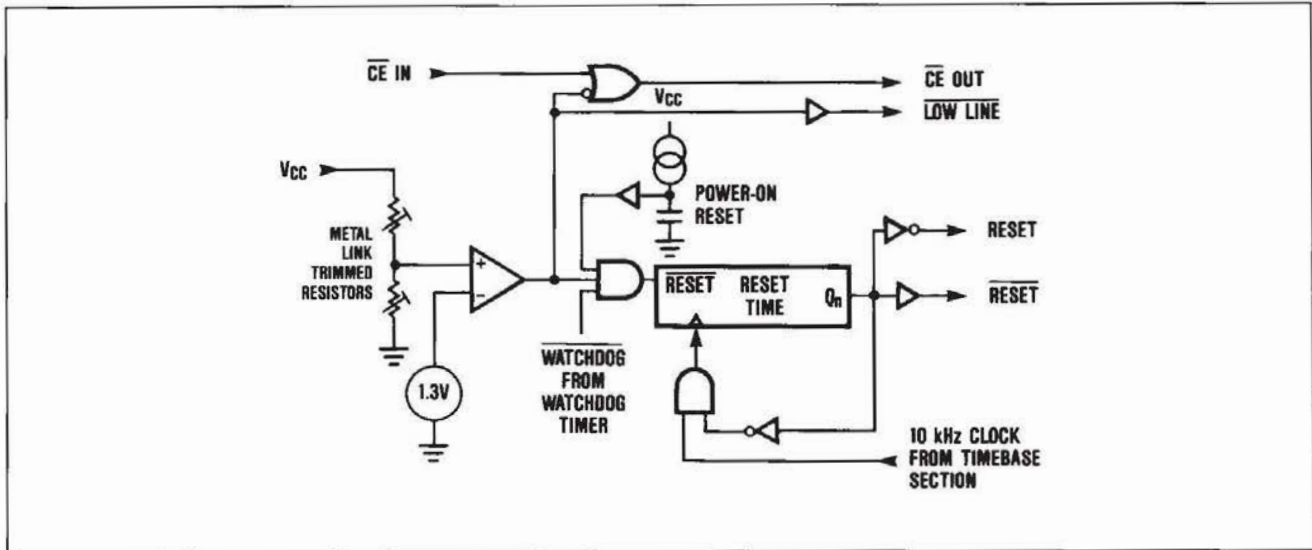

Figure 5. Reset Block Diagram
**RESET** is an active low output which goes low whenever  $V_{CC}$  falls below 4.5V (MAX690/691/694/695) or 4.25V (MAX692/693). It will remain low until  $V_{CC}$  rises above 4.75V (MAX690/691/694/695) or 4.5V (MAX692/693) for 50 milliseconds\*. See Figures 5 and 6.
The MAX691, MAX693 and MAX695 use two pins to control the Chip Enable or Write inputs of CMOS RAMs. When  $V_{CC}$  is +5V, **CE OUT** is a buffered replica of **CE IN**, with a 50ns propagation delay. If  $V_{CC}$  input falls below 4.65V (4.5V min, 4.75V max) an internal gate forces **CE OUT** high, independent of **CE IN**. The MAX693 **CE OUT** goes high whenever  $V_{CC}$  is below 4.4V (4.25V min, 4.5V max). The **CE** output of both devices is also forced high when  $V_{CC}$  is less than  $V_{BATT}$ . (See Figure 5.)